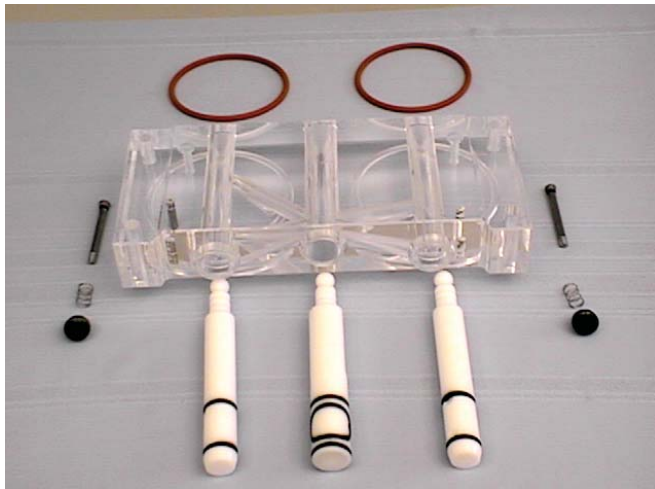

Figure 3-9 Front Door Assembly
- I. Install the spigots through the bottom of the front door (see Figure 3-9).